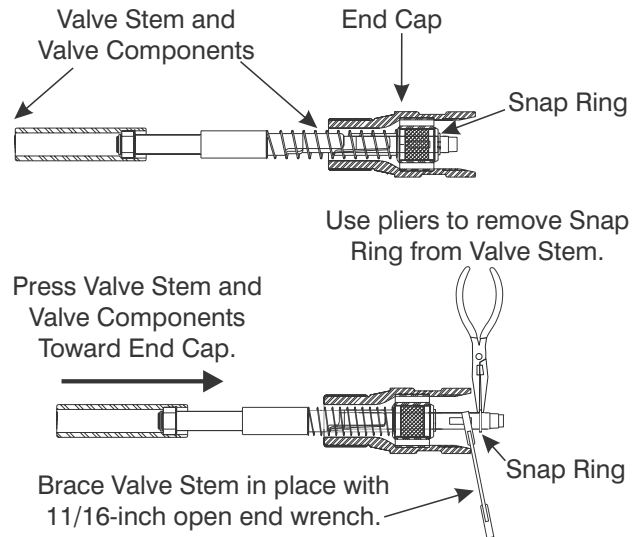

Figure 8-16. Press Valve Stem into Position
1. Secure the End Cap (8) as described in step 1 of Section 8.9.1.
2. By hand, press the Valve end of the Valve Stem (5) toward the End Cap until the Snap Ring (3) on the end of the Stem is accessible. See Figure 8-16.